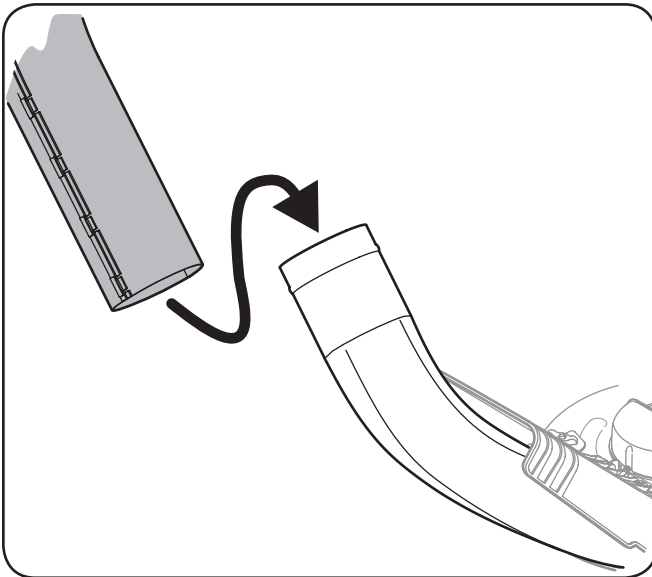

Figure 4-26
3. With the ability now to wiggle the discharge chute tube back and forth, slide it over the chute elbow mounted on the cutting deck, as shown in Figure 4-26.